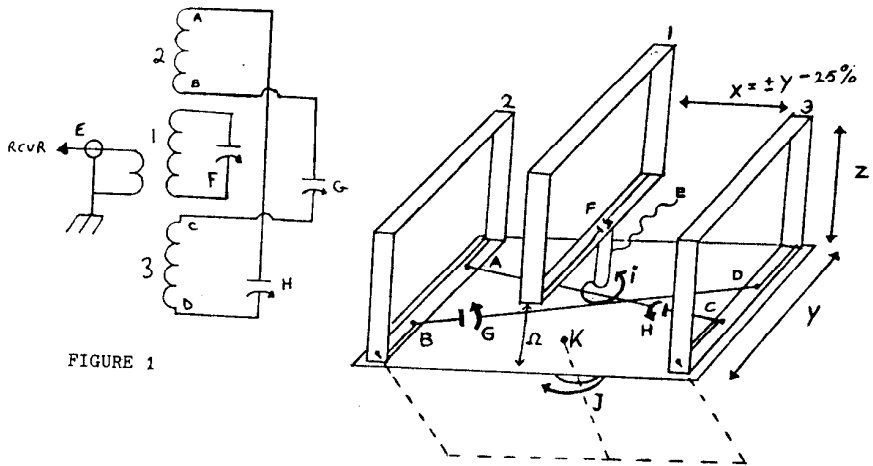
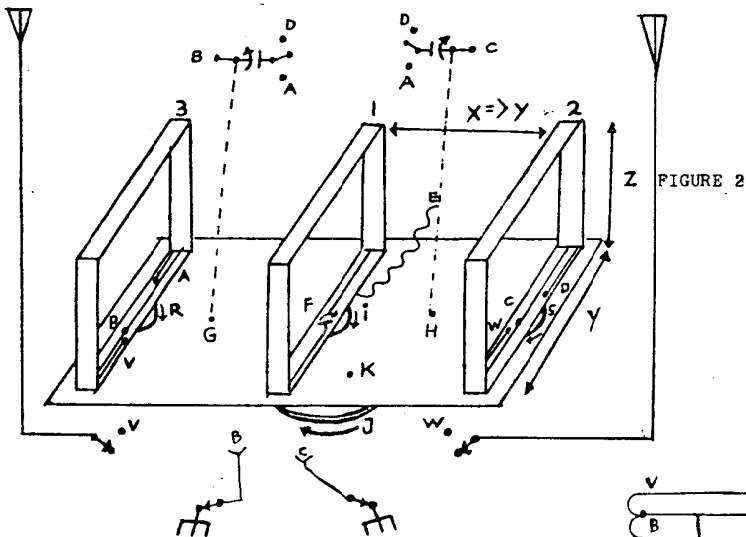

FIGURE 1
FIGURE 2
H Connecting the capacitors as diagrammed in Figure 1 results in a "clover-leaf" reception pattern by sideloops. Nulling etc. is much easier this way than when G is connected between A and B, and when H is connected between C and D, like two normal loops.
Nulling with sideloop capacitors as diagrammed in Figure 1 often needs only one capacitor to be adjusted. When sideloop capacitors are connected as in normal loops, both need to be adjusted for best result, and nulls are sometimes harder to find.
This reduction in loop spacing is possible only in the unmodified 3 parallel loop system (Figure 1). If the sideloops are also to be rotated, e.g. for phasing two random wires, then X must be slightly greater than Y (see Figure 2).
V W Floating ends of additional turn(s) of winding AB and winding DC; only needed when used to phase two random wires; the wires connect to V and W and B and C become taps on windings AV and DW. Length of wire between B and V (or C and W) is about 1/10 of total wire length between AB (or DC), not critical; it only slightly interacts with the tuning range of the capacitors. (see Figure 2)
When sideloops are capacitively connected against each other (Figure 1):
With sideloops rotatable (Figure 2):
1. Connect two randoms to the the 2 sideloops (as described in figure 2). Have all capacitors at maximum. May need to ground points B and C for best results.
Nulling with this system (especially as shown in Figure 1) is always an improvement over using the middleloop on its own.